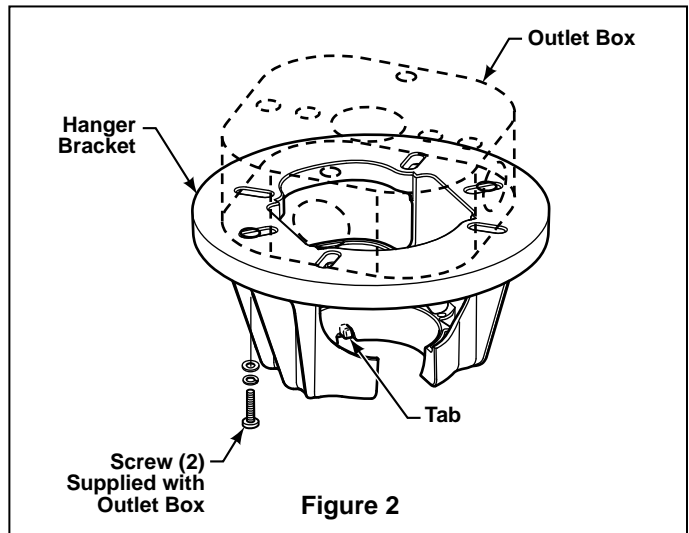
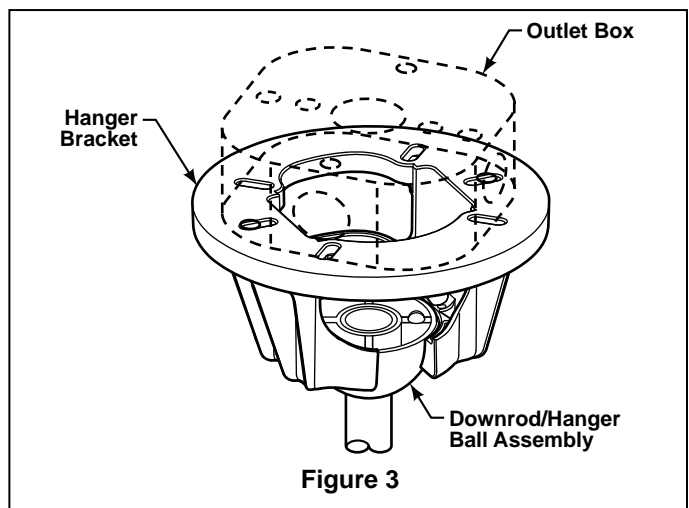

Figure 2
Figure 3
3. Loosen the two setscrews in the Downrod Support. Align the Clevis Pin holes in the Downrod with the holes in the Downrod Support. Install the Clevis Pin and secure with the Hairpin Clip. (Figure 3) Be sure to push the straight leg of the hairpin clip through the hole near the end of the clevis pin until the curved portion of the hairpin clip snaps around the clevis pin. The hairpin clip must be properly installed to prevent the clevis pin from working loose. Pull on the Downrod to make sure the clevis pin is properly installed.
4. Route wires through Motor Coupling Cover, Canopy (with Canopy Screw Cover) on fan shown with open side facing up. (Figure 3)
NOTE: Outlet box screws pass through slotted holes of the hanger bracket (Figure 2).
3. Carefully lift the fan and seat the downrod/hanger ball assembly on the hanger bracket that was just attached to the outlet box (Figure 3). Be sure the groove in the ball is lined up with tab on the hanger bracket (Figure 2).
3. Disassemble Switch Cup Cover from Switch Cup Support Plate by removing three screws. (Figure 3)